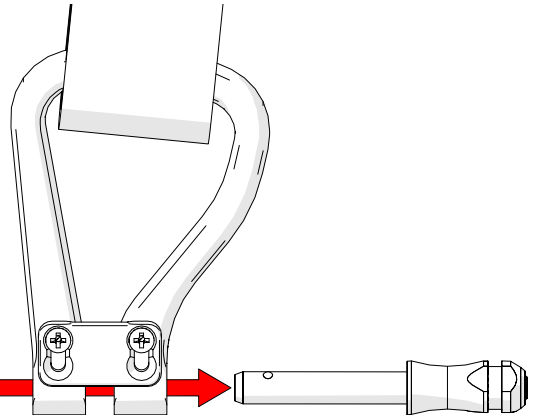

*Fig. 9 - Lift tether attachment points*
1. Lift the two tether attachment points (*Fig. 9*).